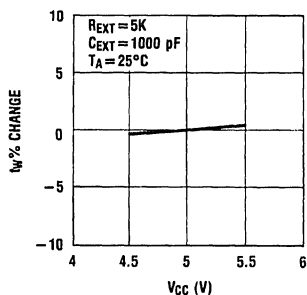
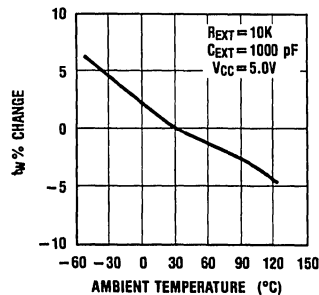

FIGURE 6
FIGURE 7
8. Output pulse width versus V_{CC} and Temperatures: Figure 6 depicts the relationship between pulse width variation versus operating V_{CC} . Figure 7 depicts pulse width variation versus ambient temperatures.